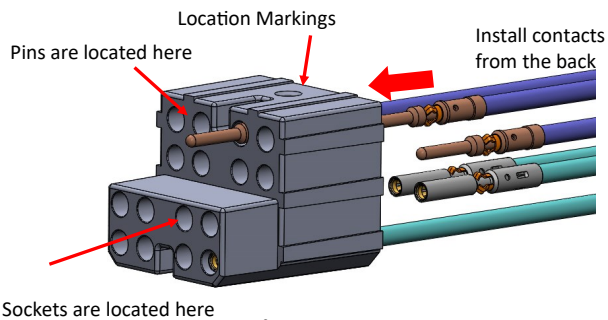

Figure 1
3. Install terminated auxiliary contacts on wire into the auxiliary module. Contacts install from the back of the module and are pushed in until they click in place. (Figure 1) With small wires it may be necessary to use assembly tool 1002G1.